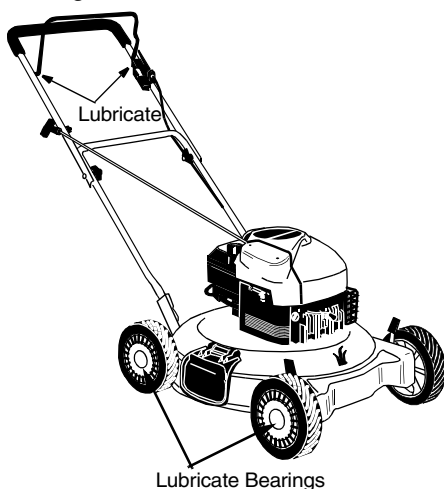

Figure 10
- Lubricate the pivot points on the blade control handle and the brake cable at least once a season with light oil. See Figure 10. The blade control must operate freely in both directions.
- Lubricate the wheel bearings (if so equipped) at least once a season with light oil (or engine oil). Also, if the wheels are removed for any reason, lubricate the surface of the axle bolt and the inner surface of the wheel with light oil. See Figure 10.